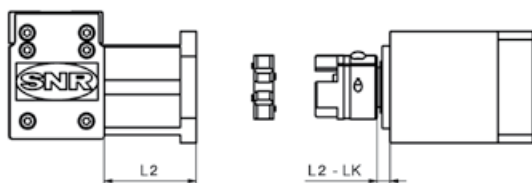

Figure 3.11 — Mounting dimension
2. Insert the coupling hub **3** on the drive or gearbox shaft **5**. The mounting dimension LK (Figure 3.11) from Table 6.23 in Chapter 6.2.4.1 must be taken into account.